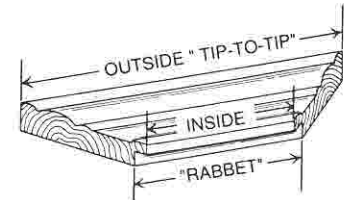
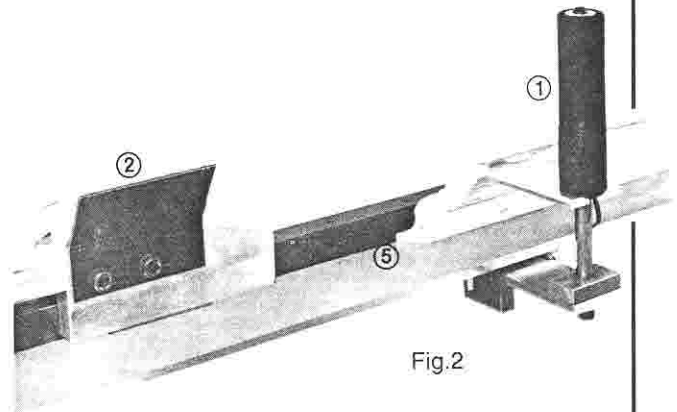

Fig.1
Fig.2
A sensing device (rabbet sensor) is provided to calibrate the stop to the material width being cut. The rabbet sensor is adjustable up and down for mouldings with high or multiple rabbets and in and out for various widths of mouldings. (1-Fig.2) The information is entered into the computer at the press of a button on the rabbet sensor handle. This step is required only once for any width of moulding being cut. The stop (2-Fig.1 & 2) is then positioned on the extruded aluminum fence as required for the size desired in decimal
The Digi-Miter™ Gage eliminates the need to rely on the operator setting the stop to a tape scale. The operator can instantly select the display mode in decimal inches, fractions or millimeters (3-Fig.1). The easy to read digital display is equipped with bright red lighted numbers.
The unit operates on standard 110 volt, 1 phase, 60 cycle current. The heart of the unit is a magnetic pulse scale and Hall effect reader (4-Fig.1). The reader is solid state and is designed for a long trouble free life. Dirt, chips, dust or oil have no effect on the operational functions of the unit.
1. The operator lays the material to be cut onto the bed of the gage and against the fence (5-Fig.2).
2. If "rabbet" dimension is desired, the rabbet sensor is slid in toward the fence until it contacts the moulding in the desired rabbet (1-Fig.2). After contact is made with the rabbet, the button on top of the rabbet sensor handle is pressed, which inputs the width position data to the CPU. The rabbet length for the existing stop position is instantly displayed on the LED digital display.
6. The CPU keypad (3-Fig.1) is provided to allow initial calibration of the stop in relation to the sawblade, to compensate for different sawblade kerf thicknesses, to set up a standard glass allowance value and to select the display mode (decimal inches, fractions or millimeters).